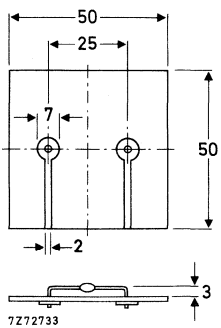

Fig. 2 Mounted on a printed-circuit board.
2. Thermal resistance from junction to ambient; device mounted on an 1,5 mm thick epoxy-glass printed-circuit board; Cu-thickness > 40 μm ; Fig. 2 (see "Thermal model")